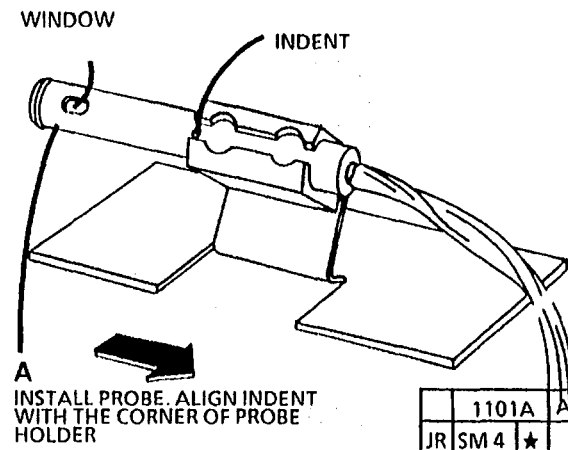

Figure 1. Install the Electrometer Probe in the Probe Holder
5. (Figure 1): Install electrometer probe in the probe holder.